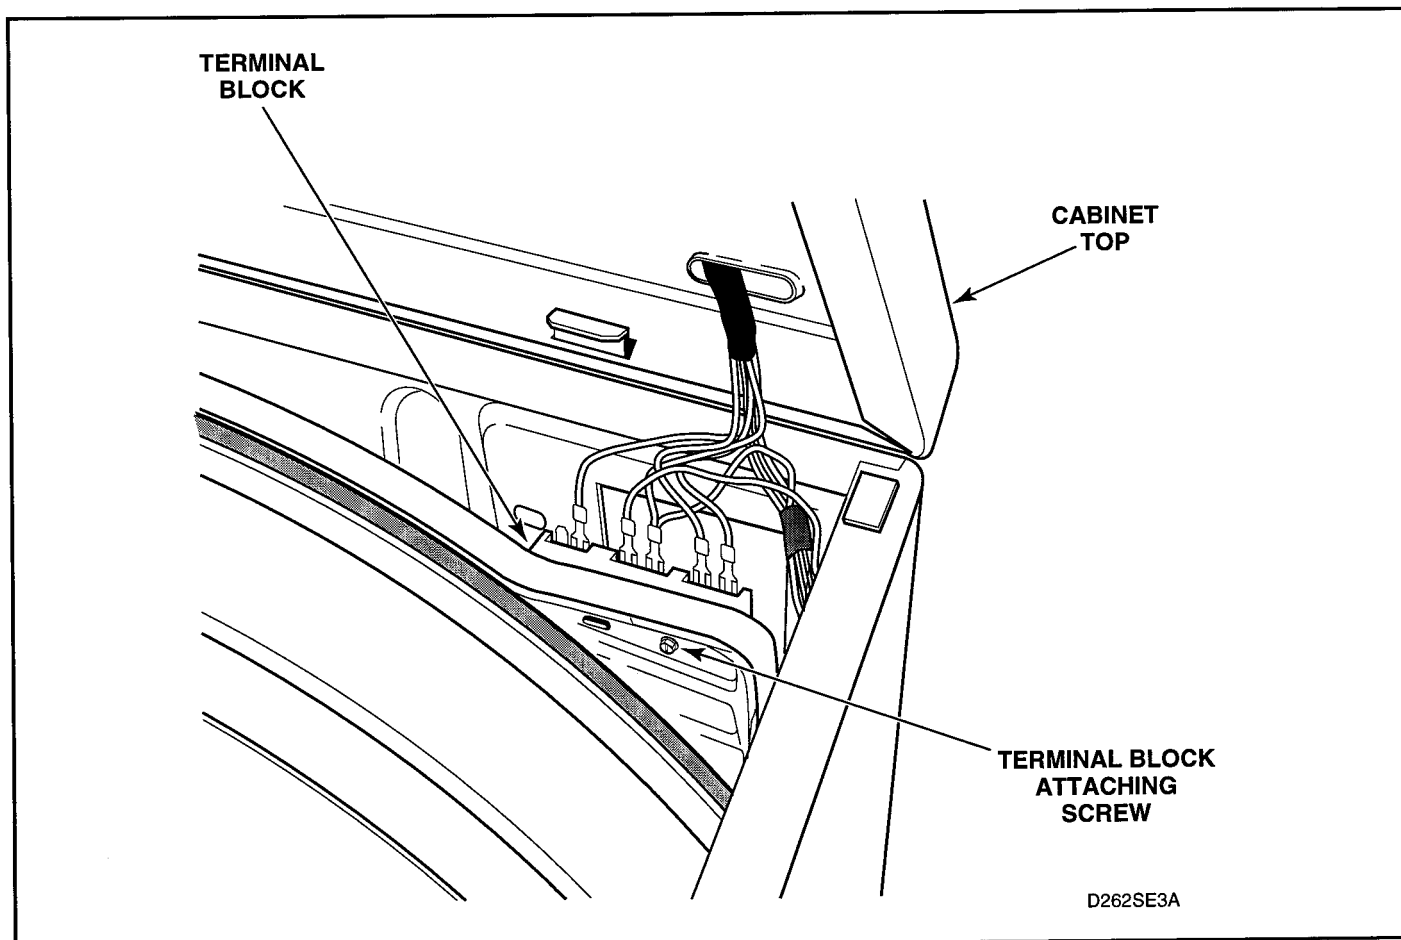

Figure 5-32
8. Remove screw holding terminal block to rear bulkhead. See figure 5-32.